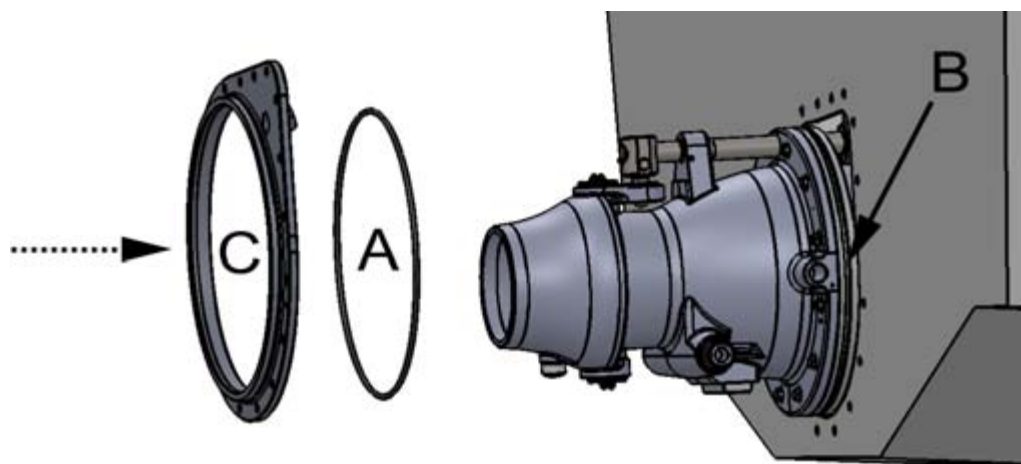

Figure 15. Sealing ring
4. Attach the O-ring seal (figure 15, point A) into the groove in the rim of the stern-side installation flange (figure 15, point B).